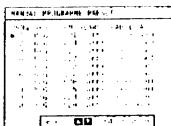

Fig. 23.
- 3 Select Manual Programme Preset with $\Delta+$ or $\nabla-$ and press OK. The MANUAL PROGRAMME PRESET menu appears. (See Fig. 23.)